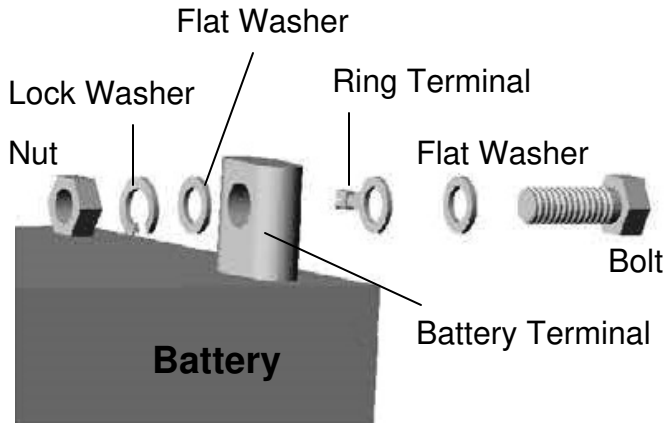
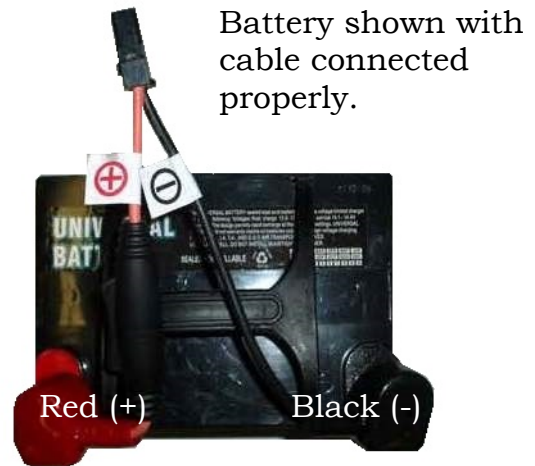

Figure 8
Figure 9
1. Use the screws, washers, and nuts provided to connect the positive (red booted) connector of each cable to the positive (+) terminal of each battery. See figure 8 and figure 9.